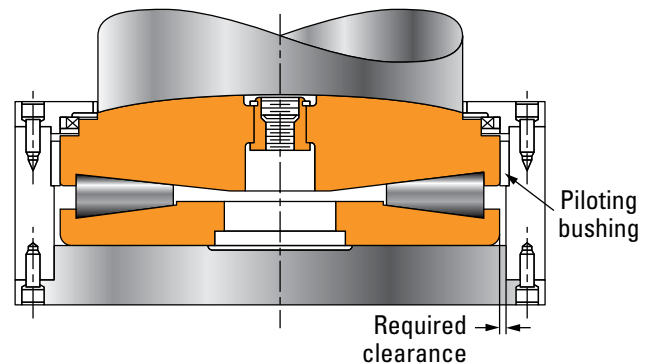

Fig. 105. TTHDSX assembly with tapered-bottom race.
- 2. Tapered-bottom race:** If the bottom race is tapered (TTHDSX) as illustrated in fig. 105, then a 3 mm (0.120 in.) radial clearance is suggested relative to the O.D. of the race to ensure that the bottom race will self-align with respect to the upper tapered race. Otherwise, the roller ends will not be properly seated against both the upper and lower large ribs simultaneously. A piloting bushing is pressed into the cartridge and is used for centering the upper race and rollers. The bottom race will be centered by the upper race and roller set.